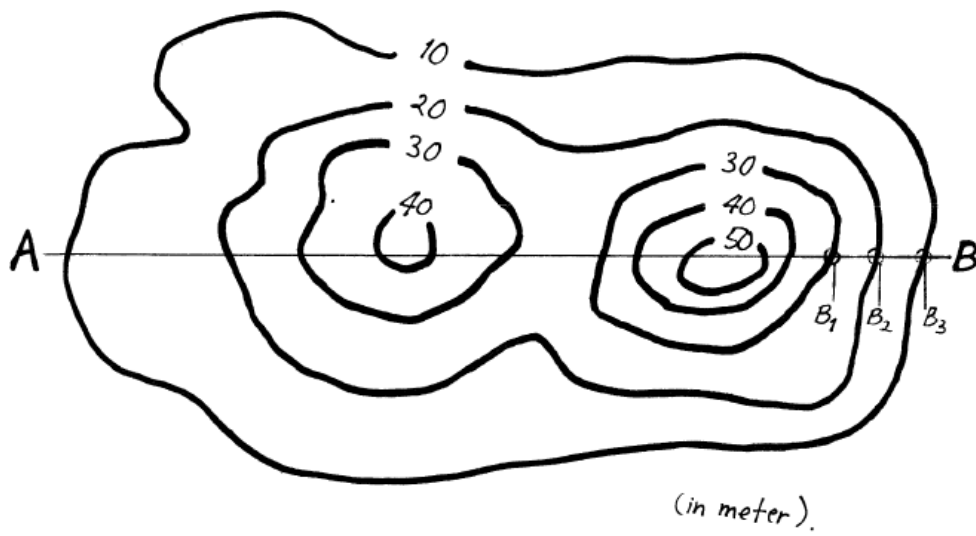
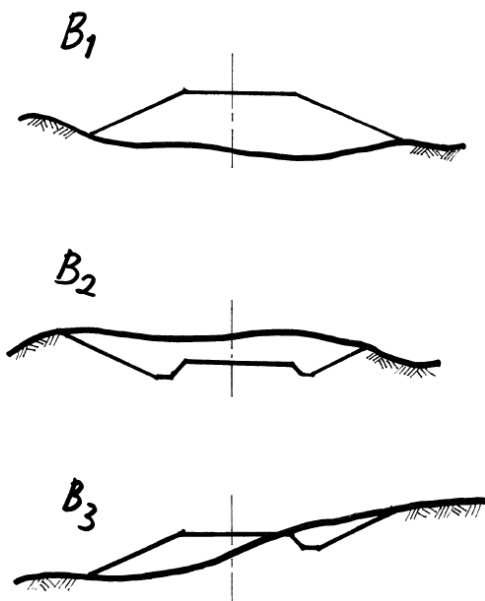

Figure 1 Contour
Figure 2 Cross section B1, B2 and B3
1. (a) As a first step of identifying route location to conduct office study of existing Information you are given a contour plot shown in Figure 1. Sketch the horizontal and vertical alignment at cross section **A-B**.
- (b) Based on the field survey and road design, typical cross sections (**B1**, **B2** and **B3**) are shown in Figure 1 and Figure 2. Table 1 shows data of cut and fill areas. The distance between section is 75 meter. You are asked to determine the total volume ( $\text{m}^3$ ) of cut and fill.
- (c) Using the sketch of Figure 1, locate a suitable route location from **A** to **B** with only one horizontal curve. Discuss your answer.